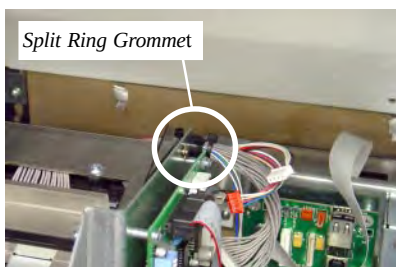

Figure 3-23. Remove the split ring grommet from the printer mounting bracket before removing the printer cables.
7. Refer to Figure 3-23. Remove the split ring grommet that protects the cable assembly as it passes through the printer